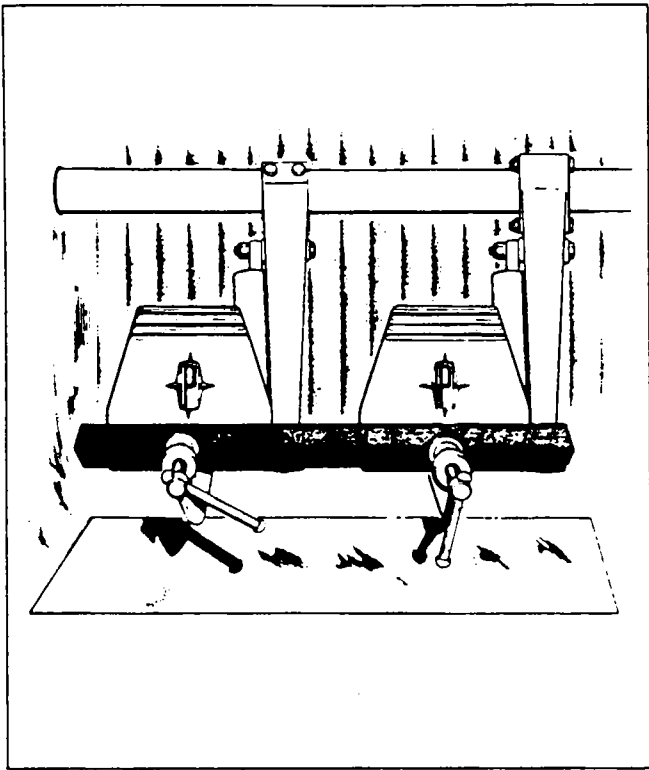

Figure 32-8. Clamping Rudder Pedals in Neutral Position
- G. Clamp rudder pedals in neutral position. (Refer to Figure 32-8.)